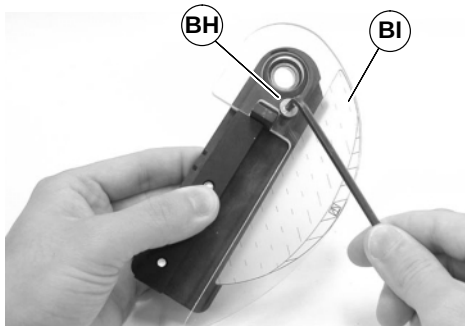

Figure 41
2. For drive end head plates, remove screw (BH of Figure 41) and remove belt sag guard (BI).